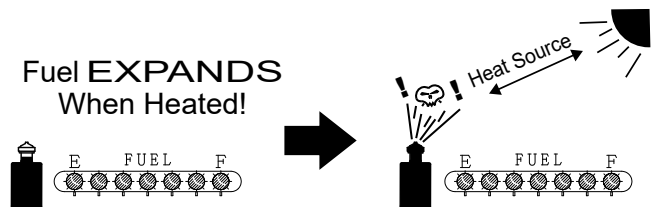

Figure 17. Fuel Expansion
**DO NOT OVERFILL** the fuel system. Leave room for fuel expansion. Fuel expands when heated (Figure 17).